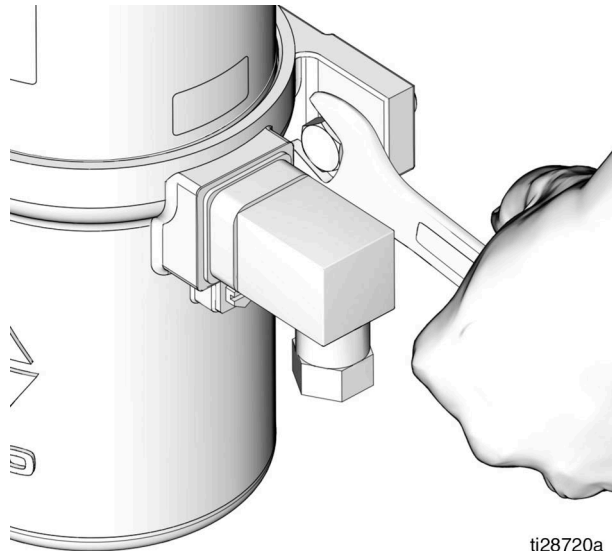

FIG. 12
7. Replace drain plug (40).
8. Remove the mounting bolts (FIG. 12) and remove the pump from service.